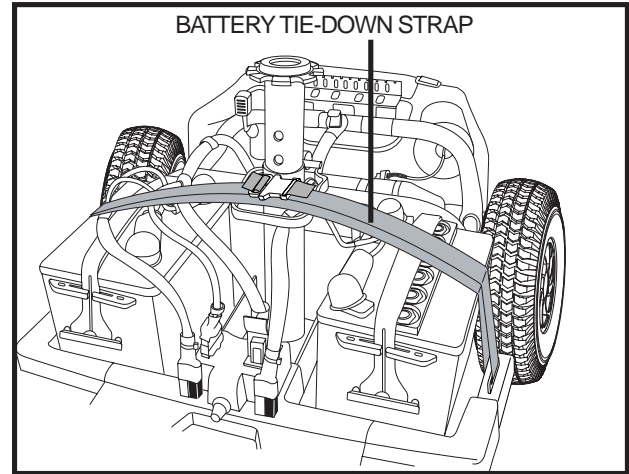

Figure 13C. Battery Tie-Down Strap
11. Reconnect the battery tie-down strap—making sure the strap is positioned over the frame release lever to ensure proper securement. See figure 13C.